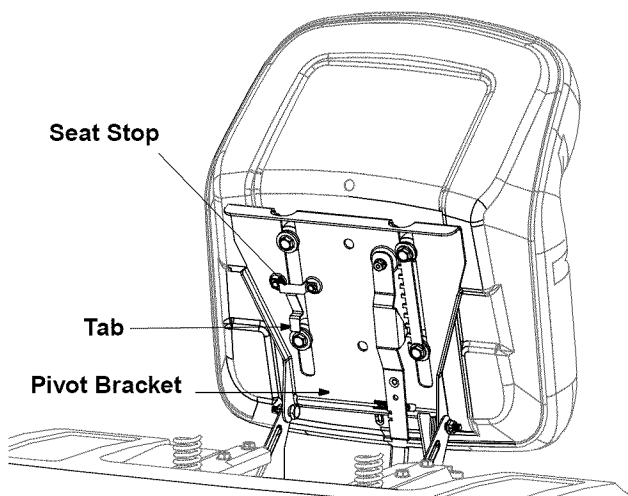

Figure 4
2. Slide seat in until front seat spacer engages the seat stop. See Figure 4.